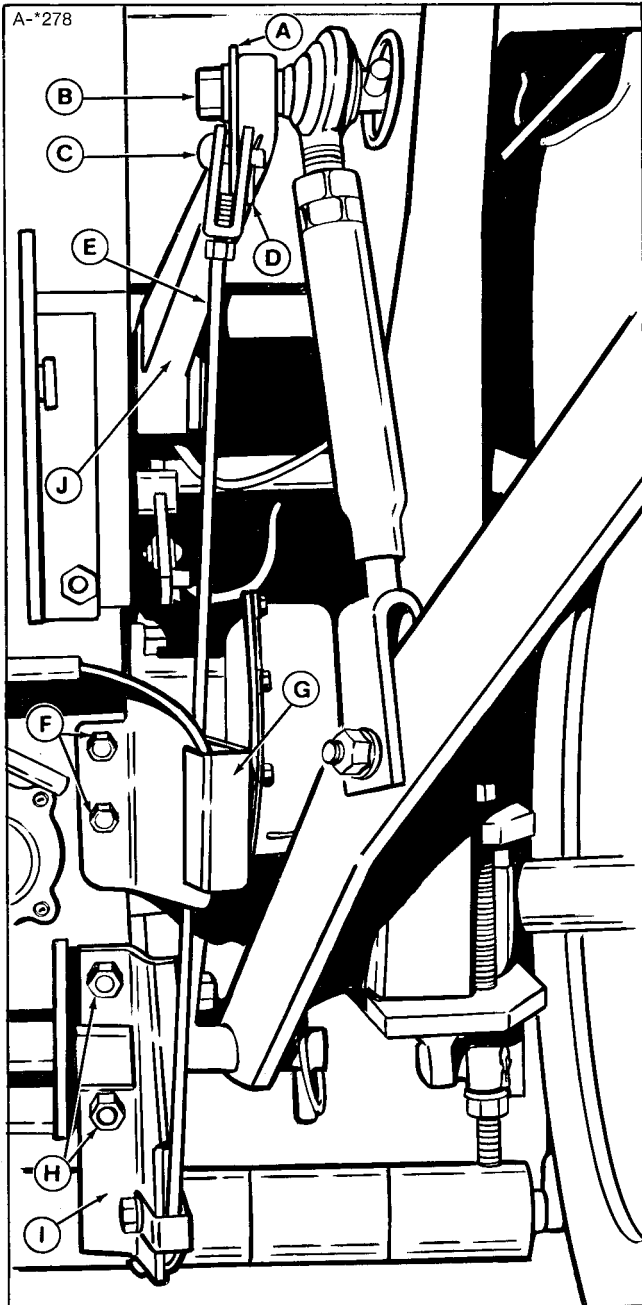
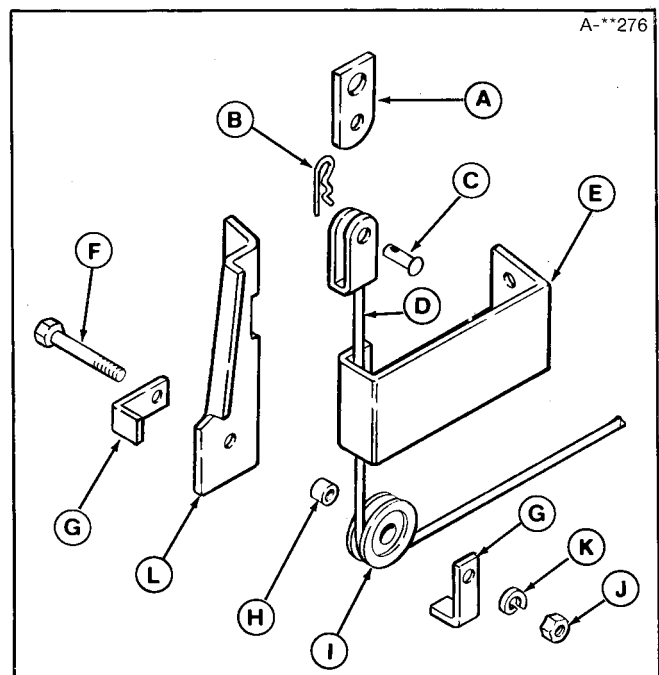

Figure 3. Lift Cable and Guards
Figure 4. Lift Cable and Guards
- Remove the nut and washer (B, figure 3). Position the lift link (A) at 90° angle to arm (J). Reinstall nut and washer (B).
- Connect the cable clevis to the lift link with the 1" pin (C) and spring clip (D).
- Remove the two capscrews (F), position the cable guard (G) as shown, then reinstall capscrews to secure.
- Place the cable (D, figure 4) on the pulley (I). Assemble the capscrew (F), belt stops (G), pulley (I) and bracket (L) as shown. Check assembly by referring to item I in figure 3.
- Remove the two nuts (H, figure 3), position the pulley mounting bracket (I) as shown, then reinstall the nuts (H).